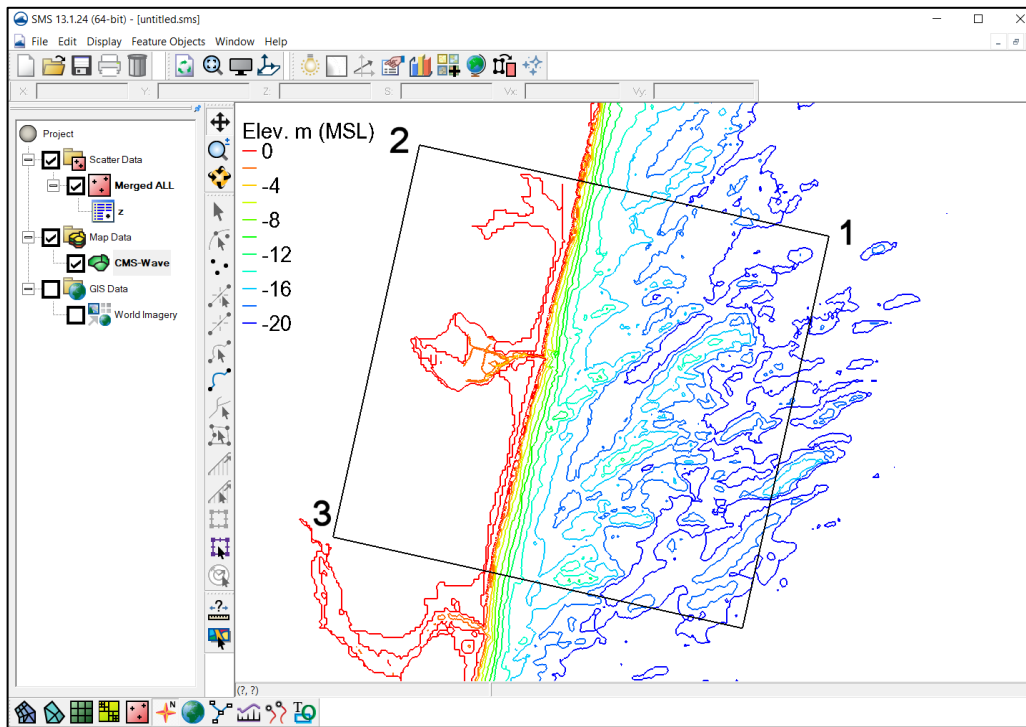

Figure 4. Creating the Cartesian grid frame.
- Using (click) the **Create 2-D Grid Frame**  tool, click out three corners of the grid in the order shown in Figure 4 to create the grid frame. The first two points (Points 1 & 2) clicked define the local x-direction (point toward the land), which is the direction of the incoming waves (normal to the general shore orientation), and the last two points (Points 2 & 3) clicked are placed on the land.